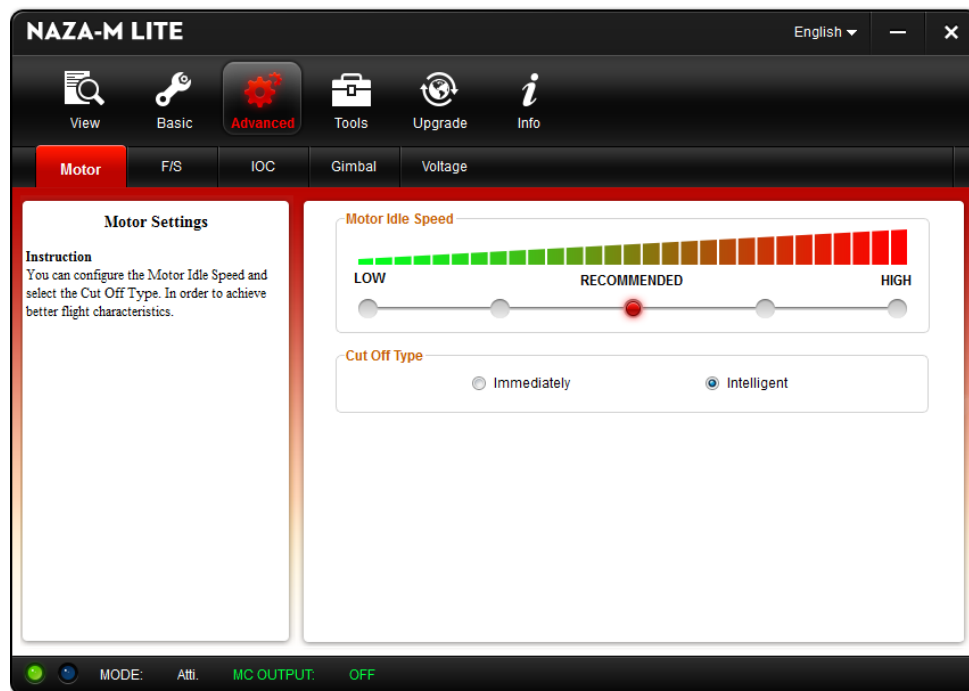

Figure 11: "Motor" page.
- The **Motor Idle Speed** option allows configuration of the motor's idle speed and cutoff. The recommended speed is preferred for most situations, but the setting can be modified for better flight characteristics (see Figure 11).